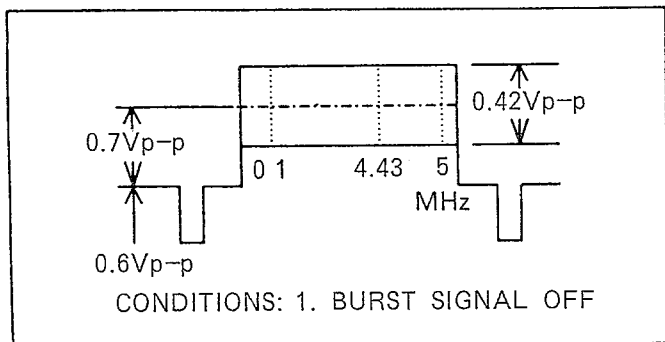

Fig. V7
- (2) Supply sweep signal to B6007-PIN8.
(3) Record it for a while in SP mode.
(4) Play back just recorded portion.
(5) Adjust VR5101 so that level at 2MHz is within spec. as shown in Fig.V7.